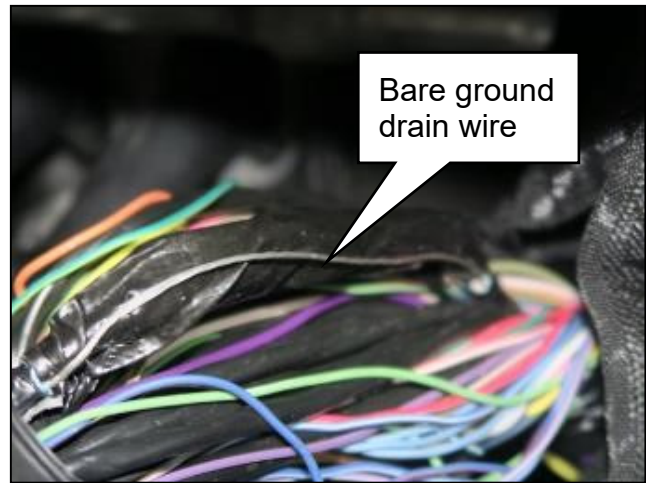

Figure 25
- Verify the bare ground drain wire is outside of the splice tape as shown in Figure 25.